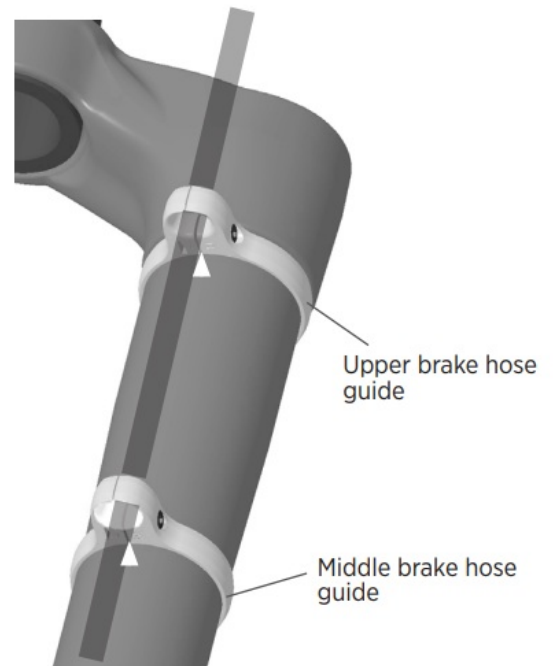

Figure 15: Positioning of brake hose guides
3. Remove the two screws from the middle and upper brake hose guides. The middle brake hose guide is marked with an “M” and has a slightly smaller diameter than the upper brake hose guide (marked with a “U”). Install the brake hose through the opening in each of the guides. Loosely reinstall the screws (Figure 15).
4. Position the middle and upper hose guides so that the bottom slit is aligned with the top peak of each arrow graphic that is laser etched on the fork (represented by the white arrowheads in Figure 15). Use a 2.5 mm hex bit and a torque wrench to tighten the screw to 0.9 N.m (8 in-lb).